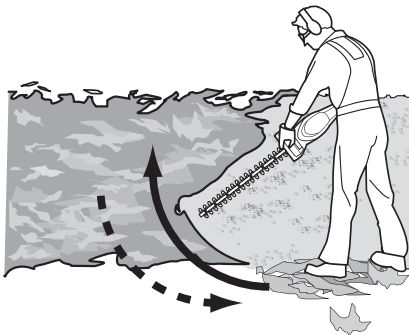

Fig. 21
- > First cut both sides from the bottom cutting upwards to the top. This will prevent any of the trimmings falling into the path of the area still to be cut (Fig. 21).